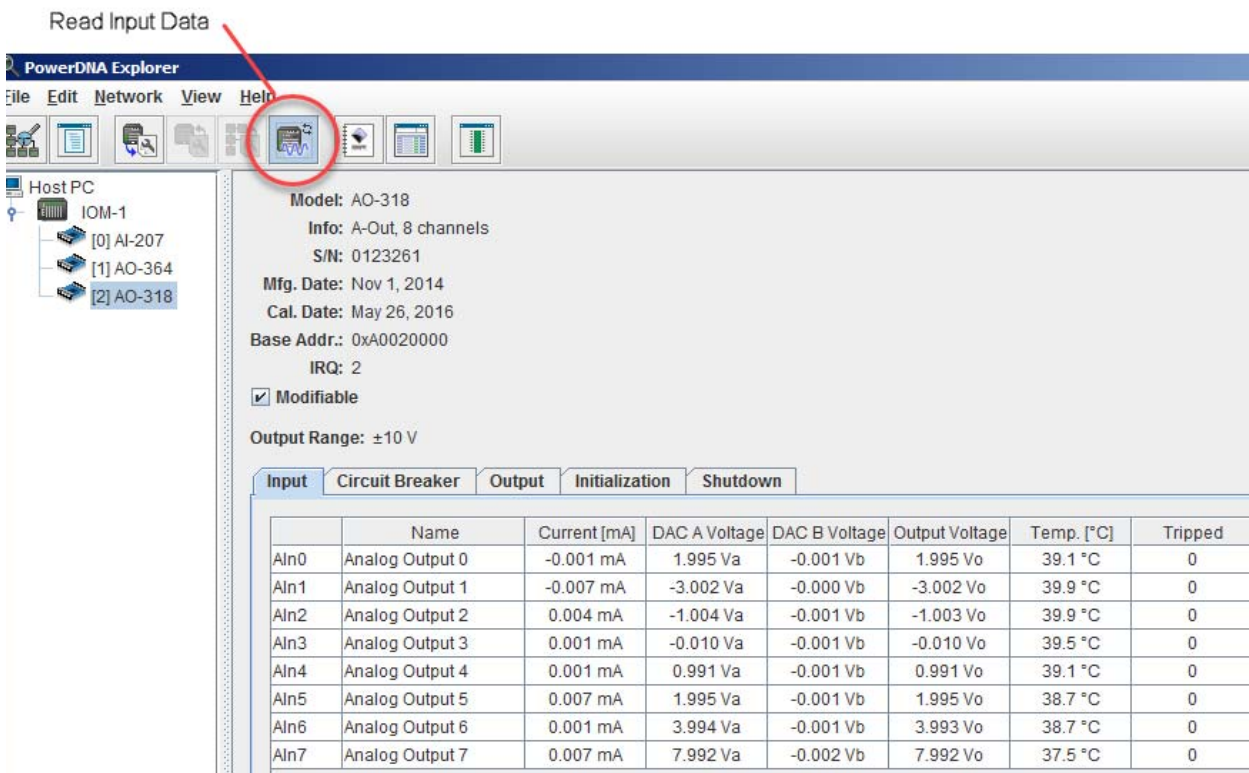

Figure 1-8 PowerDNA Explorer Diagnostic Input Panel for AO-318
- **Guardian Diagnostic Channels, Subchannel 0 through 4:** displays five Guardian ADC Channels as described in Section 1.5.3. The default order is shown below in **Figure 1-8**, but note that this order can be configured with the low-level API using `DqAdv318SetConfig()` function.
Figure 1-8 shows the **Input** tab for the AO-318. Note that the AO-318-02x is a current sourcing board that has a single CB. For the AO-318-02x DAC A and DAC B voltages map to voltages before and after the CB.